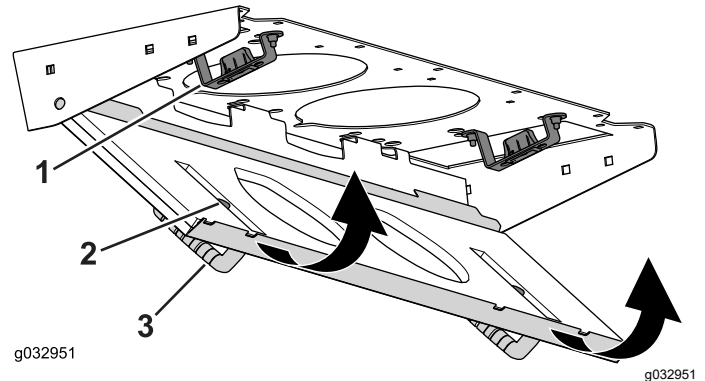

Figure 150
4. Rotate the filter screen around the tabs until the latch locks into the latch-mount assembly (Figure 150).